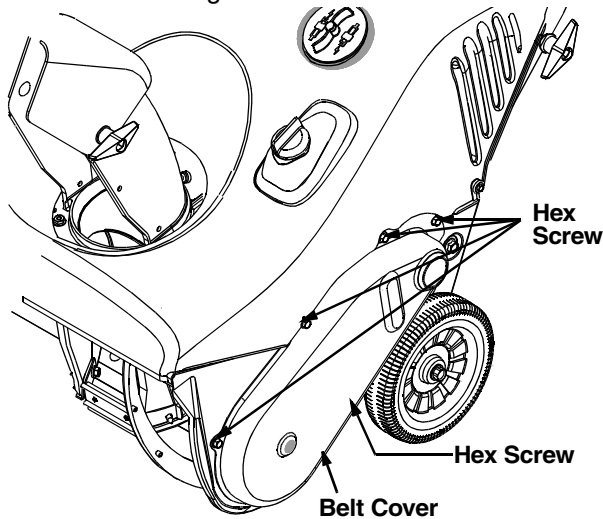

Figure 12
- Remove the belt cover by removing five hex screws that hold it in place. See Figure 12.
- Remove the belt cover by removing five hex screws. See Figure 12.